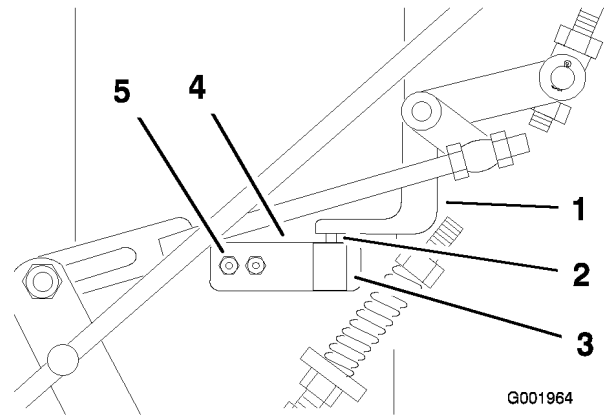

Figure 45
9. Check the travel of the shift lever in the control panel slot. The shift lever travel should be approximately centered in the control panel slot (Figure 45).
11. With the speed control lever in the neutral position, check to make sure the safety switch is depressed and there is an 1/8 to 1/4 inch (3 to 6 mm) space between the actuating tab and the safety switch (Figure 45)..
12. To adjust the switch location, loosen the two neutral bracket screws holding the switch plate to the frame (Figure 45).
13. Adjust the switch up or down to obtain an 1/8 to 1/4 inch (3 to 6 mm) space (Figure 45).
14. Tighten the two neutral bracket screws holding the switch plate (Figure 45).